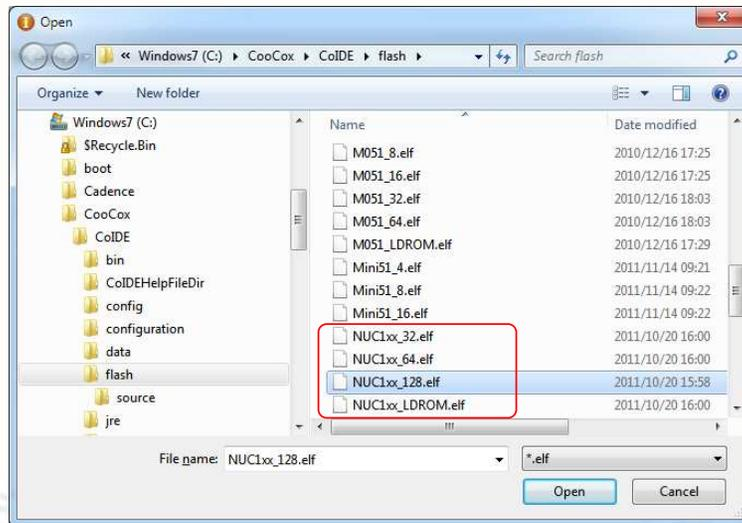

Figure 4-22 Set the Programming Algorithm File for CoCoX CoIDE
Step 5: To ensure the firmware will be downloaded to APROM or LDROM, select *NUC1xx_128.elf* or *NUC1xx_LDROM.elf* file (NUC100 series is used in this case) as shown in Figure 4-22; “32, 64, or 128” in the file name means the capacity of APROM. If no specific file is founded, specify the following path “C:\CooCox\CoIDE\flash\”.